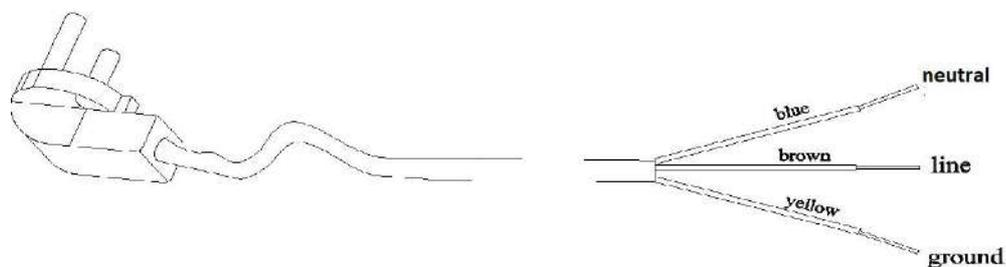

Fig. 13
- ❖ The energy power available in teh user's house is sufficient for the normal supply of this appliance (see reating plate) (fig 13)